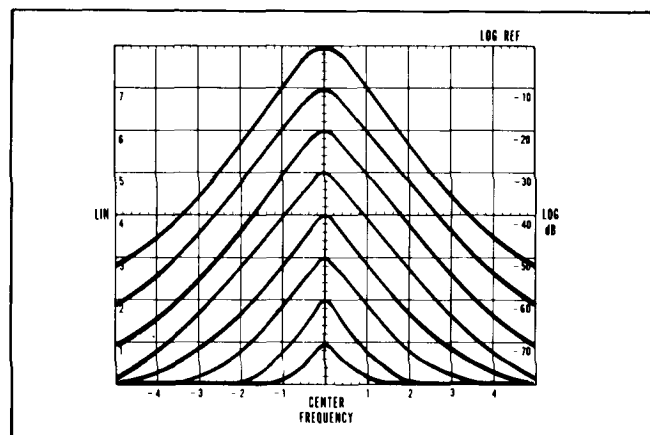

Figure 4-2. Vertical Gain Adjustment
- Adjust the LOG REF LEVEL controls so the maximum signal amplitude is exactly on the -70 dB graticule line. Rotate LOG REF LEVEL control seven steps in the clockwise direction. The amplitude of the signal should increase in increments of one division per 10-dB step (see Figure 4-2).
- Adjust VERTICAL GAIN to place maximum signal amplitude exactly on LOG REF (top) graticule line (Figure 4-2). Repeat steps g and h to obtain optimum adjustment of VERTICAL GAIN (increments as close to one division per 10 dB step as possible).